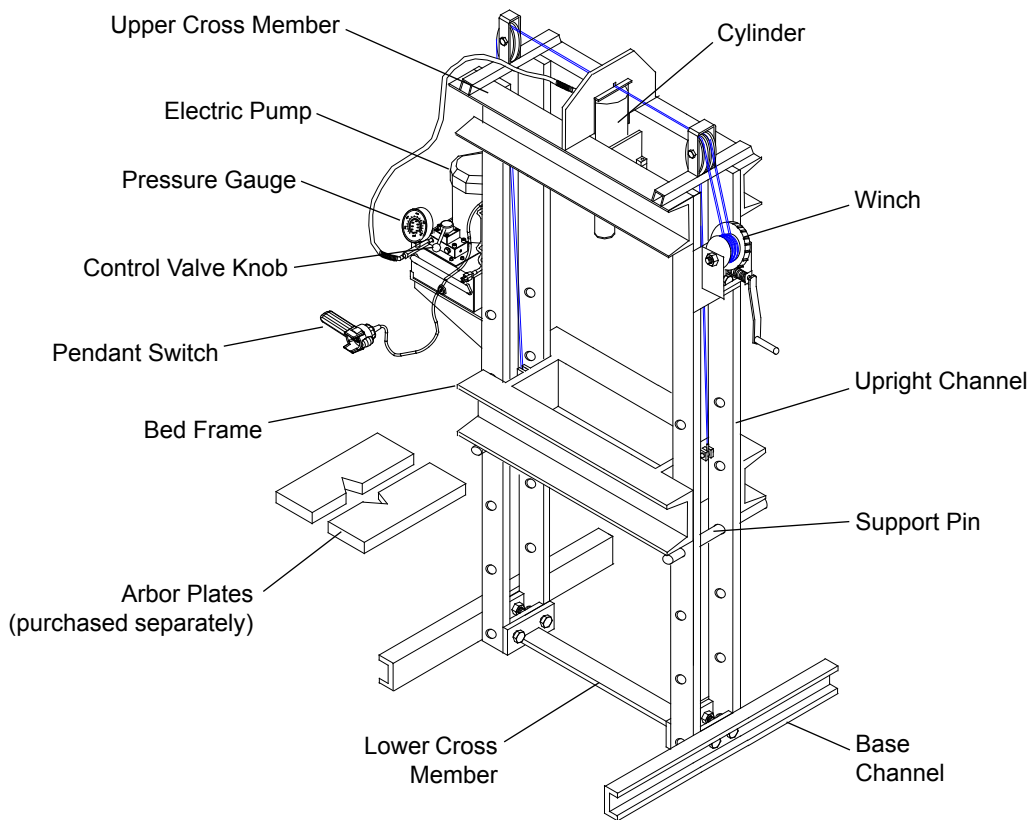

Figure 2 - Components for 100 Ton Press (Model 9E100T10)
2. Install the winch assembly to the press using 3 bolts, washers and nuts (ref. Figs 2 & 3).